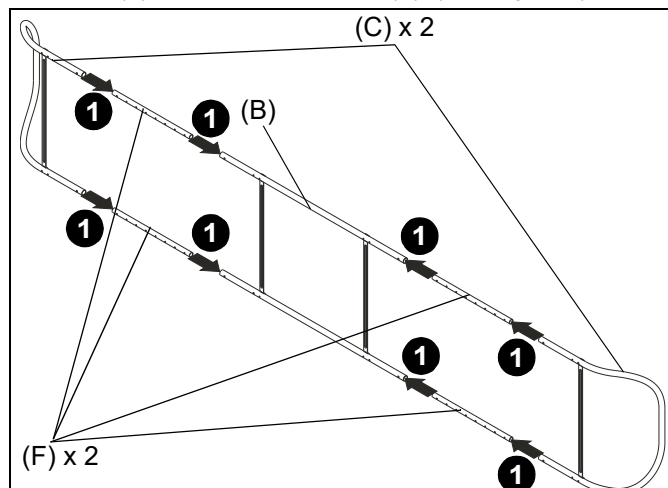

Figure 6
1. Slide together two outside frames (C), four center joiner tubes (F) and one center frame (B). (See Figure 6)